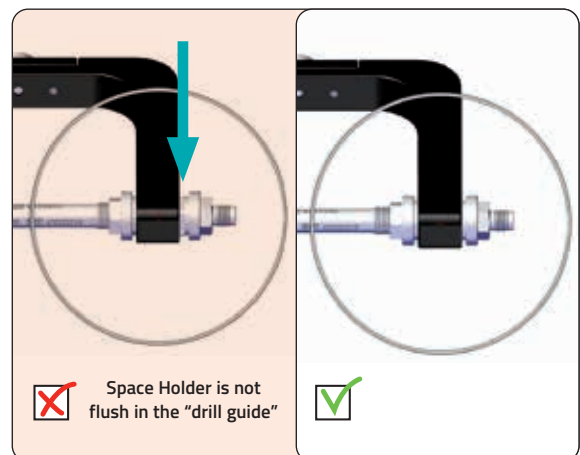

Fig. 48 Space holder wrongly inserted
2) The Space Holder is not completely flush with the Drill Guide Assembly. (Figure 48)